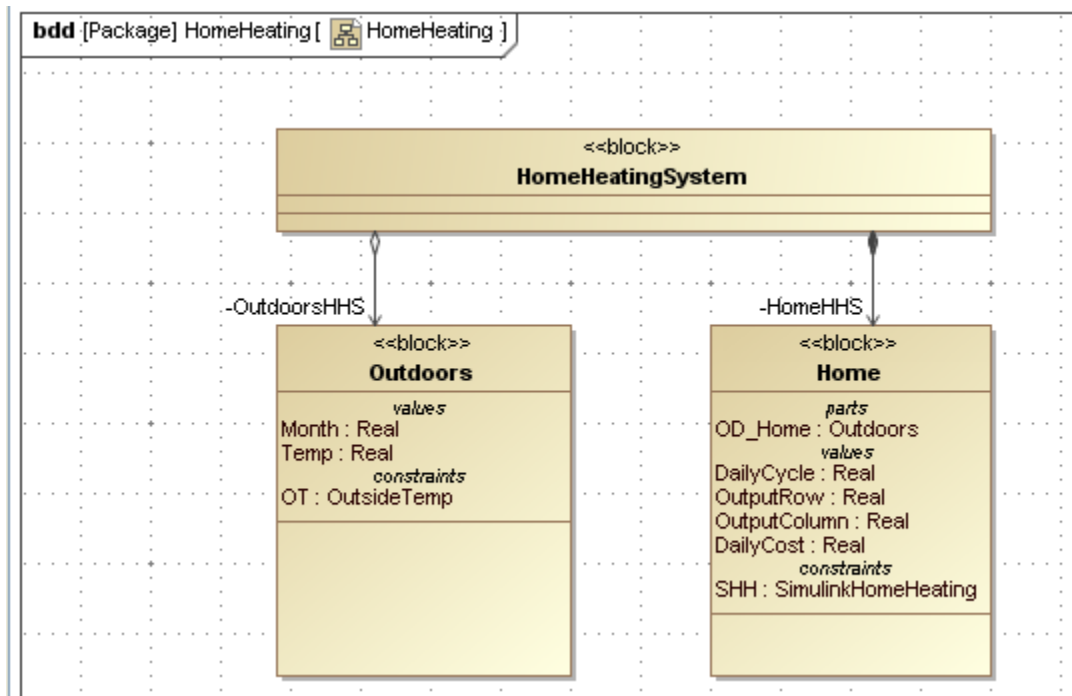

Figure 7.2 Block Definition Diagram for HomeHeating model
- e. Create a block definition diagram, Name = HomeHeating, and drag the blocks into the diagram. See Figure 7.2. Note that we use a Directed Composition connector to link HomeHeatingSystem to Home but reference the Outdoors block with a Directed Aggregation arrow.
- f. Create the Value Properties shown in Figure 7.2. All are Real with a multiplicity of 1.